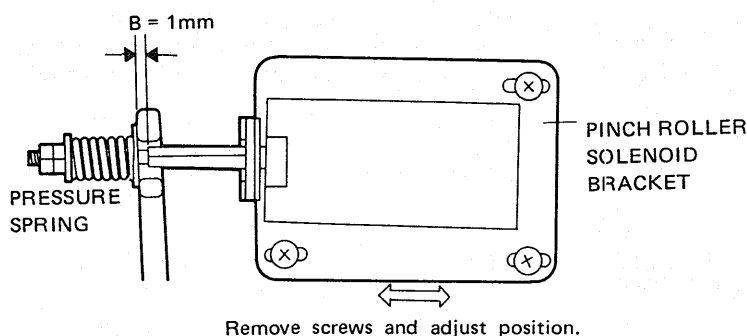

Fig. 22
### 6.4 PINCH ROLLER PRESSURE ADJUSTMENT (Figs. 22, 23)
3. Make sure that the gap B shown in Fig. 22 is 1mm.